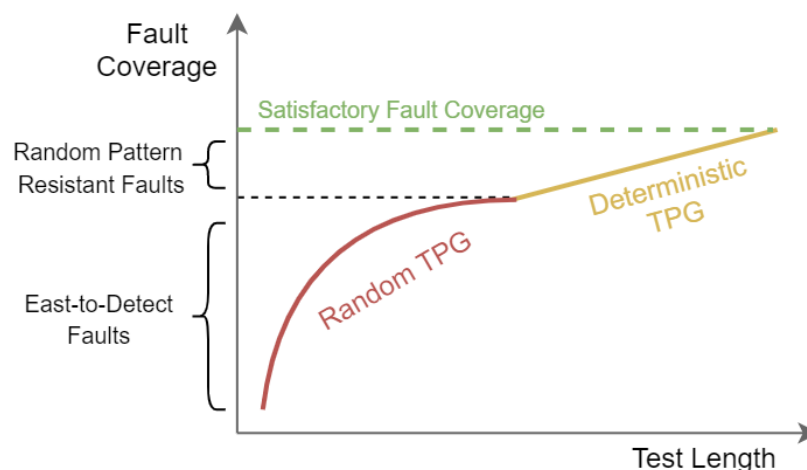

Figure 1: Fault coverage report by running RTG followed by ATPG
For most combinational circuits, a small set of randomly generated test vectors can detect a substantial percentage of single stuck-at faults. For most combinational circuits, this percentage lies in the 60–90% range [1]. A set of randomly generated tests of a given size typically provides lower fault coverage compared to a set with an equal number of deterministically generated test vectors. Therefore, the main advantage of RTG is to detect many *easy* faults by just running fault simulation, and avoiding the expensive deterministic ATPG algorithms (such as D-Algorithm and PODEM). However, the rapid increase of fault coverage by running RTG will eventually *saturate*. The test process should detect this saturation and then run deterministic approaches for the remaining faults. This concept is illustrated in Fig. 1.
- To draw a figure similar to Fig. 1, you need to report FC every n_{TFGR} test vectors. Just a note that you may have access to the current FC ratio at every step, however, as we will see in the next phase for detection of saturation, we may need a report for every n_{TFGR} pattern. Corner cases are $n_{TFGR} = 1$ or $n_{TFGR} = n_{tot}$. You can assume that n_{tot} is always a factor of n_{TFGR} .